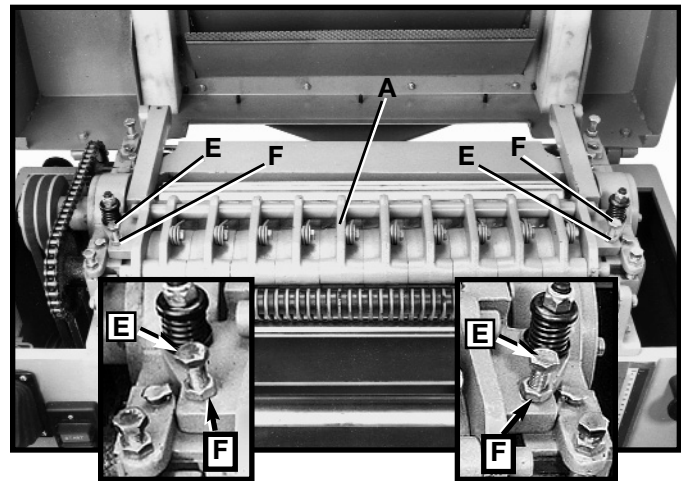

Fig. 37
The chipbreakers (A) Fig. 37, are located on top of the planer and extend downward around the front of the cutterhead. The chipbreakers will rise as stock is fed through the planer and "breaks or curls" the wood chips. The bottom of the chipbreakers must be parallel to the knives and set .040 below the cutting circle. To check and adjust the chipbreakers, proceed as follows:
5. If an adjustment to the chipbreakers is necessary, loosen two hex nuts (E) Fig. 37, and turn adjustment screws (F) until chipbreakers (A) touch gage block (B) at both sides of the table.